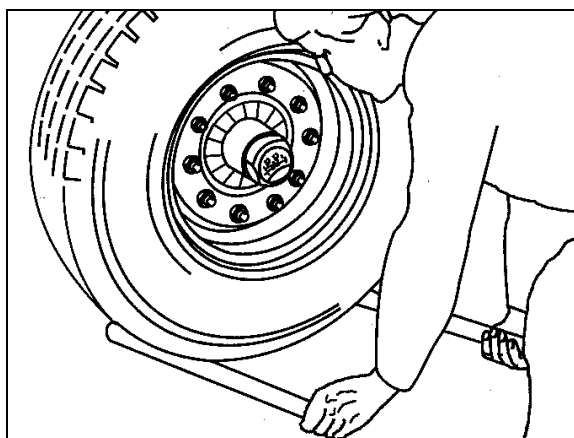

Fig. 84
1. To check the play on wheel hub bearings, raise the axle until the wheels turn freely (Fig. 84).